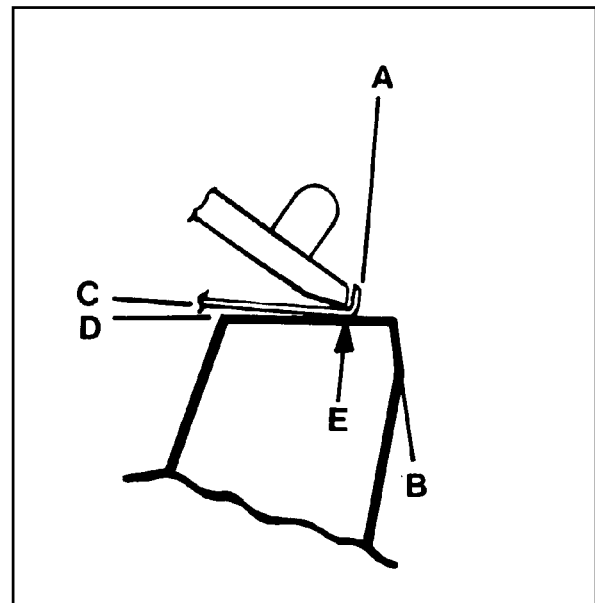

Figure 35
4. By moving the brackets, adjust them so surface "A" is level with surface "B", and surface "C" contacts surface "D" at point "E" at both ends of the cylinder when the universal clamp is closed (see Figure 35).